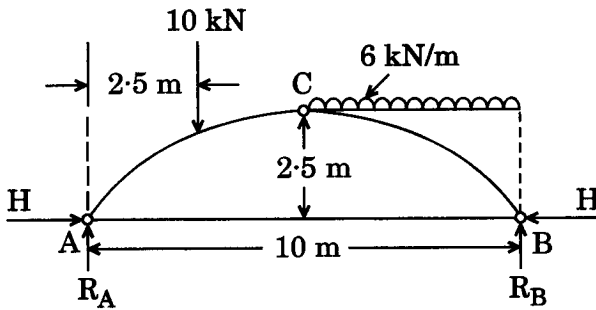

Figure 1
2. A three-hinged parabolic arch of span 10 m and rise 2.5 m carries a point load of 10 kN at 2.5 m from the left end and a uniformly distributed load of 6 kN/m on the right half of the span as shown in Figure 1. Determine the reactions at A and B. Also determine the horizontal thrust.